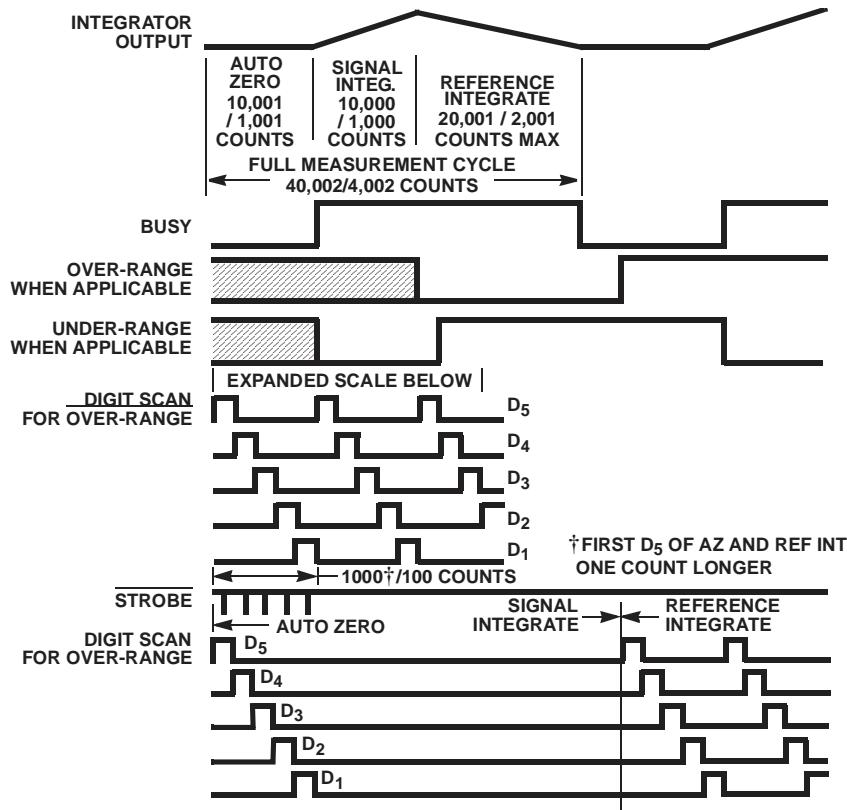

FIGURE 5. TIMING DIAGRAM FOR OUTPUTS
10. Tested in 3¹/₂ digit (2,000 count) circuit shown in Figure 5, clock frequency 12kHz. Pin 2 71C03 connected to GND.
11. Tested in 4¹/₂ digit (20,000 count) circuit shown in Figure 5, clock frequency 120kHz. Pin 2 71C03A open.